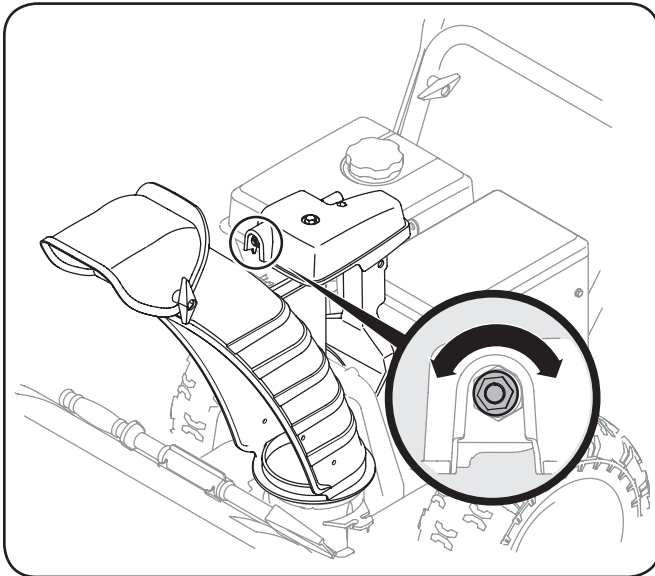

Figure 6-6
- While preventing the chute control rod from turning tighten the nut on the chute gearbox assembly. See Fig. 6-6.